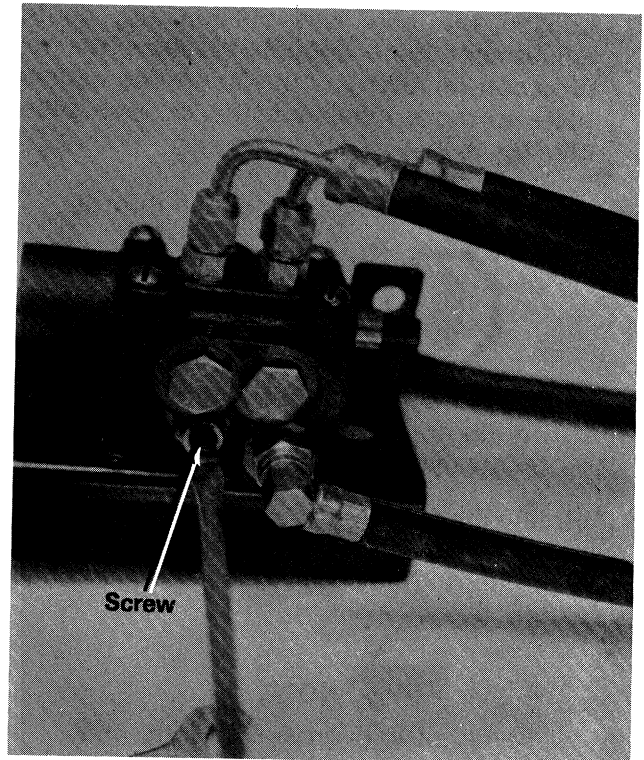

FIGURE 35.
3. Turn the screw in three complete turns. (See figure 35.)